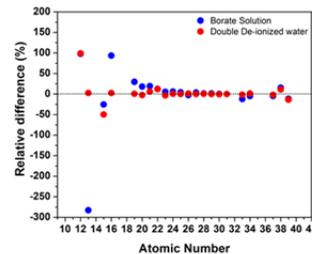
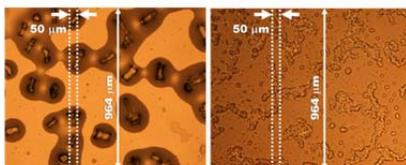
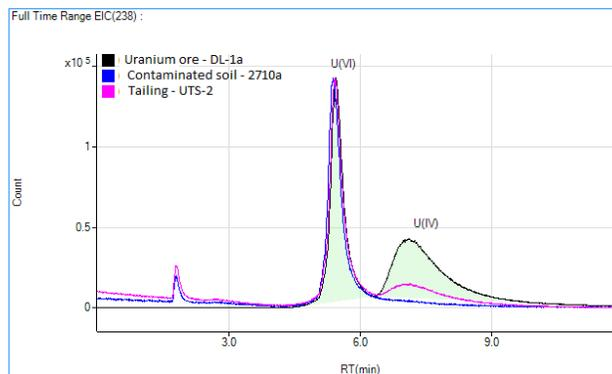

Fig.3: Relative difference between element sensitivities from borate solution and double de-ionized water with respect to those from the manufacturer.
Fig.2: Optical micrographs of air dried borate solution (left) and air dried de-ionized water solution (right). The scales indicate X-ray irradiated area
Figure 1. Ion chromatogram of standard reference materials.
A fast borate fusion sample preparation method was used for TXRF elemental quantification of high silica material. When coupled to TXRF element sensitivity curves (Fig. 1) measured specifically for that sample preparation technique, it is shown here that more accurate quantification of low-Z metals are achieved than those which follow from using element sensitivities provided by the manufacturer. Dissolution of high silica materials by borate fusion provides a completely dissolved and homogeneous solution. Comparatively, this technique takes much less time than traditional methods used for ICP-OES analysis of trace elements (0.1-10 ppm), without involving strong acids (e.g. HF, HNO3, HCl, HClO4) or microwave digestions. Moreover, borate solutions must be handled carefully in ICP-OES laboratory environments to prevent any clogging that may be caused by their high salt contents. With TXRF, the high salt content is not a problem, but it is necessary to dry the borate solution as a thin film on a flat reflector substrate in order for TXRF measurements to be made. Upon the drying of borate solution, small crystals are formed and are randomly and uniformly distributed under the X-ray irradiated area (Fig. 2). Elements of interest are all captured in these crystals as seen by SEM-EDX analyses. Quantification by TXRF requires knowledge of relative element sensitivities. Therefore, the element sensitivities of 22 elements measured by K- $\alpha$  lines in borate solution and double de-ionized water matrices were developed and compared with those of the manufacturer (Fig.1). The samples fused into solutions were custom standards made from mixtures of pure oxides. Differences in element sensitivities with respect to the manufacturer were observed for elements with lower atomic number (Fig. 3). The resulting element sensitivities determined for borate solutions were used for elemental quantification of samples and compared with elemental analyses derived from the manufacturer's element sensitivities. Improvement in accuracy (Fig. 4) was achieved for metals with low-Z atomic numbers (e.g. K, Ca and Ti) when using element sensitivities developed especially for borate solution matrix. With the methodology development presented here, it has thus become possible to obtain accurate quantification of trace elements in high silica material by TXRF. We expect this development to be particularly useful in obtaining a faster turnaround time on trace element analysis of high silica materials than by traditional ICP-OES
Fig.1: Element sensitivity curves measured by K- $\alpha$  lines for borate solution, double de-ionized water and as received by manufacturer. Symbols in the equation are the following: S is sensitivity, I is net intensity and C is concentration of analyte element (i) and internal standard (j).
The environmental fate of uranium in solids depends to a large extent on its solubility in water and on the mineralogy of uranium bearing phases. In general, uranium (IV) is considerably less soluble in aqueous solutions than uranium (VI). In this study we developed a method to separate and quantify uranium (IV) and (VI) species. First, solid sample was digested in aqueous acid mixture. The digest was then subjected to ion chromatography coupled with inductive coupled plasma mass spectrometer to separate and quantify U(IV) and U(VI), as illustrated in the chromatogram (normalized to U(VI)) of digested standard reference materials (SRMs) in Figure 1.